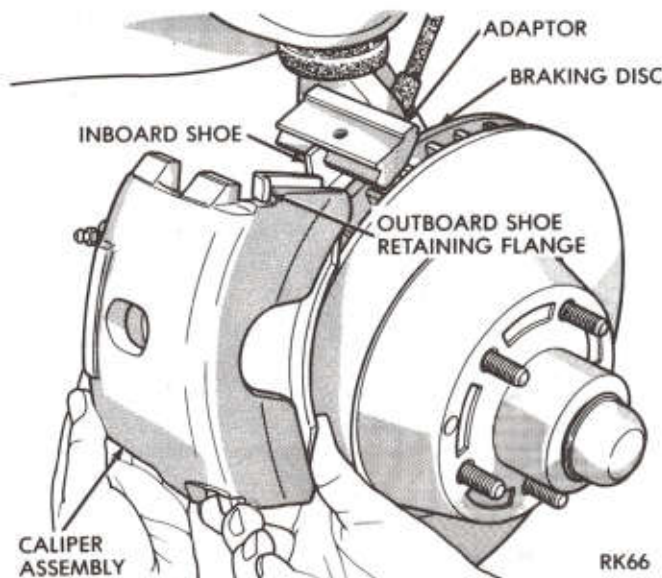

Fig. 6—Removing or Installing Caliper
- (4) Remove caliper from disc by slowly sliding caliper assembly out and away from disc (Fig. 6).
(4) Remove retaining screw, retaining clip (and anti-rattle spring) that attach caliper to adaptor (Fig. 4). Carefully slide caliper out and away from disc and adaptor (Fig. 6).
(1) Raise vehicle, remove wheel and tire assemblies.
(2) Remove retaining screw, retaining clip (and anti-rattle spring) that attach caliper to adaptor (Fig. 4). Carefully slide caliper out and away from disc and adaptor (Fig. 6). Remove outboard shoe and lining assembly from caliper, see "Brake Shoe Removal".
(3) To remove piston, support caliper assembly on upper control arms on shop towels to absorb any hydraulic fluid loss. **Carefully** depress brake pedal to hydraulically push piston out of bore (brake pedal will fall away when piston has passed bore opening) prop brake pedal to any position below the first inch of pedal travel to prevent loss of brake fluid. (If both front caliper pistons are to be removed, disconnect flexible brake line at frame bracket after removing first piston. Plug brake tube to remove piston from opposite caliper.)